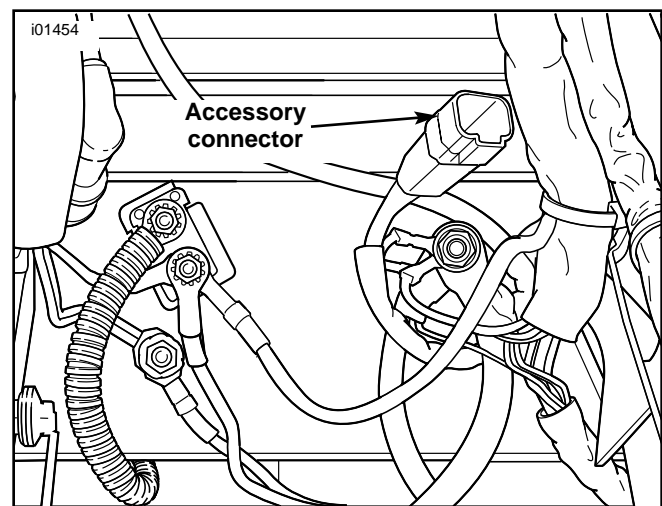

Figure 5. Location of accessory connector (upper frame cross member, under seat)
12. See Figure 5. Remove the seat and locate the accessory circuit connector.